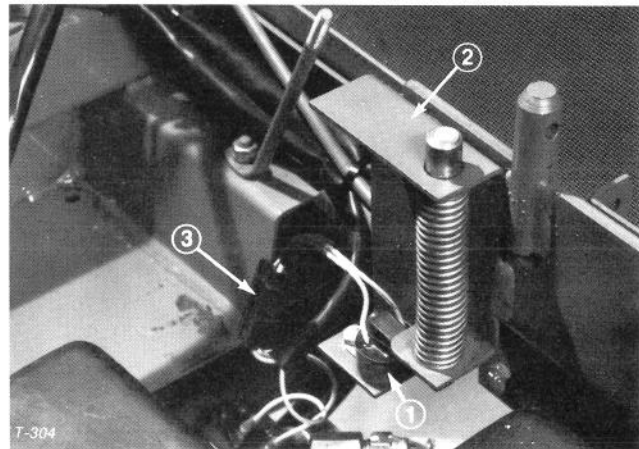

Figure 6
2. Mount seat support bracket to frame (Fig. 6).
3. Remove seat switch from shipping bracket (Fig. 5) and mount to seat support bracket using same fasteners (Fig. 6). Connect switch connector to main wire harness connector (Fig. 6).
3. Remove seat switch from shipping bracket (Fig. 5) and mount to seat support bracket using same fasteners (Fig. 6).